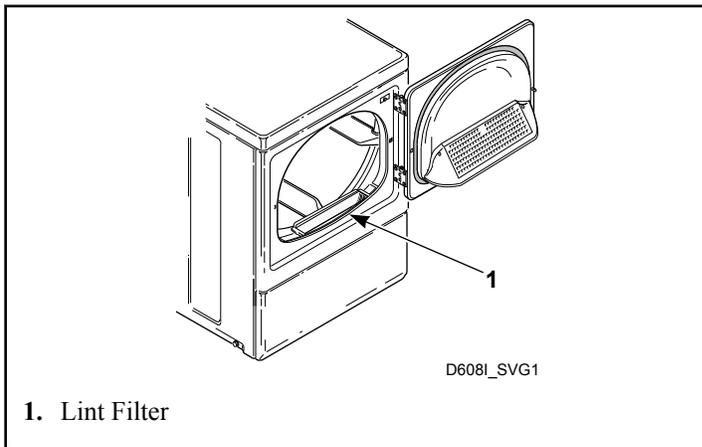

Figure 54
**CLEAN THE LINT FILTER BEFORE DRYING EACH LOAD.** (Refer to *Figure 54* for lint filter location.) Cleaning the lint filter is important because a layer or pad of lint on the filter will block the flow of air through the dryer, thus reducing the efficiency of the dryer. The clothes will take longer to dry and energy will be wasted.